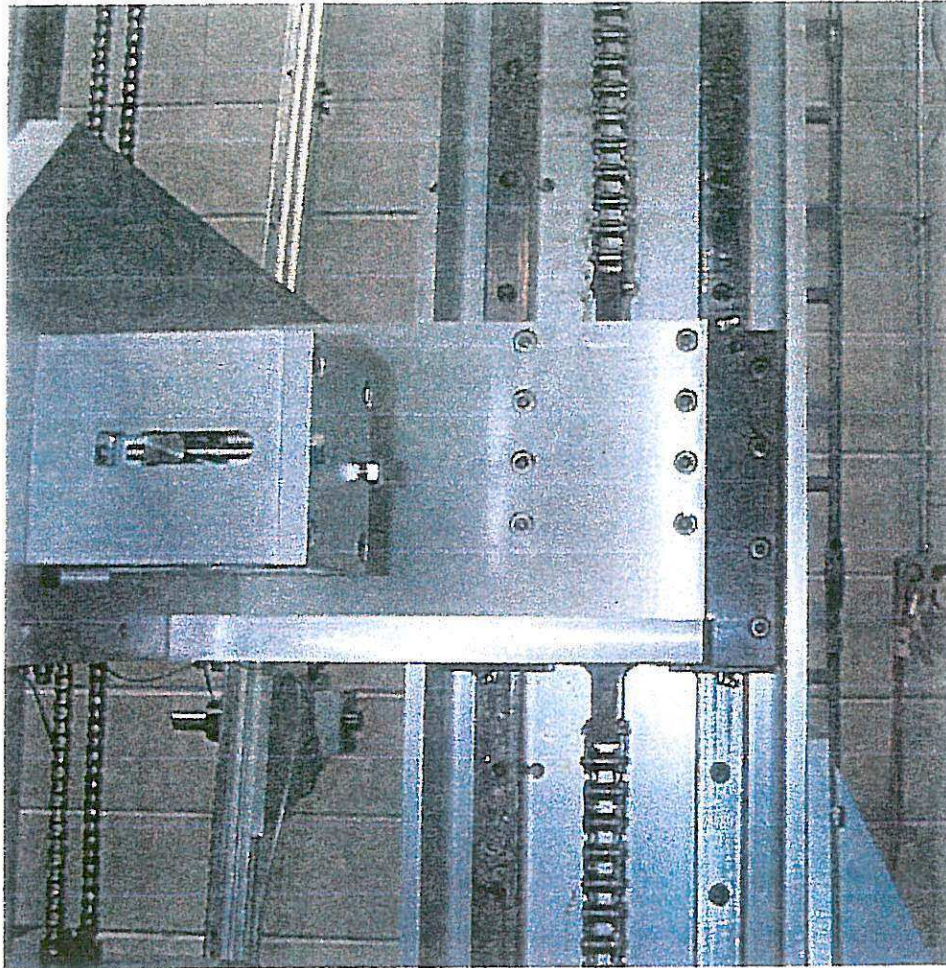

FIG. 5
- 8- WITH A CLEAN RAG, REMOVE ALL MATERIALS SUCH AS OLD GREASE OR FABRIC DUST FROM LINEAR RAILS AND ROLLER CHAINS. THEN APPLY LITHIUM GREASE ON RAIL SURFACES AND ROLLER CHAIN ELEMENTS. PERFORM THIS STEP EVERY TWO WEEKS. SEE FIG. 5 .